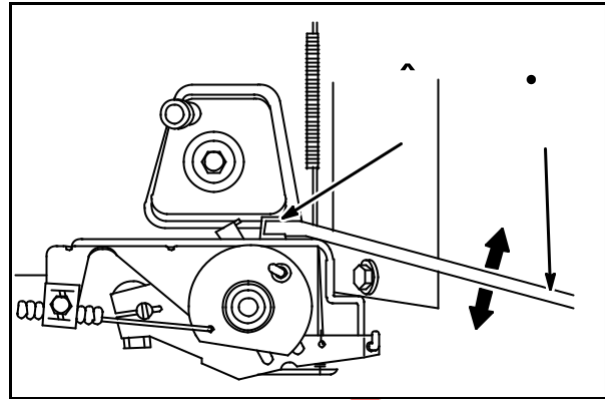

Fig. 45
Bend tang (8) with Tool #19352 (1) to obtain de-sired top no-load RPM, Fig. 45.